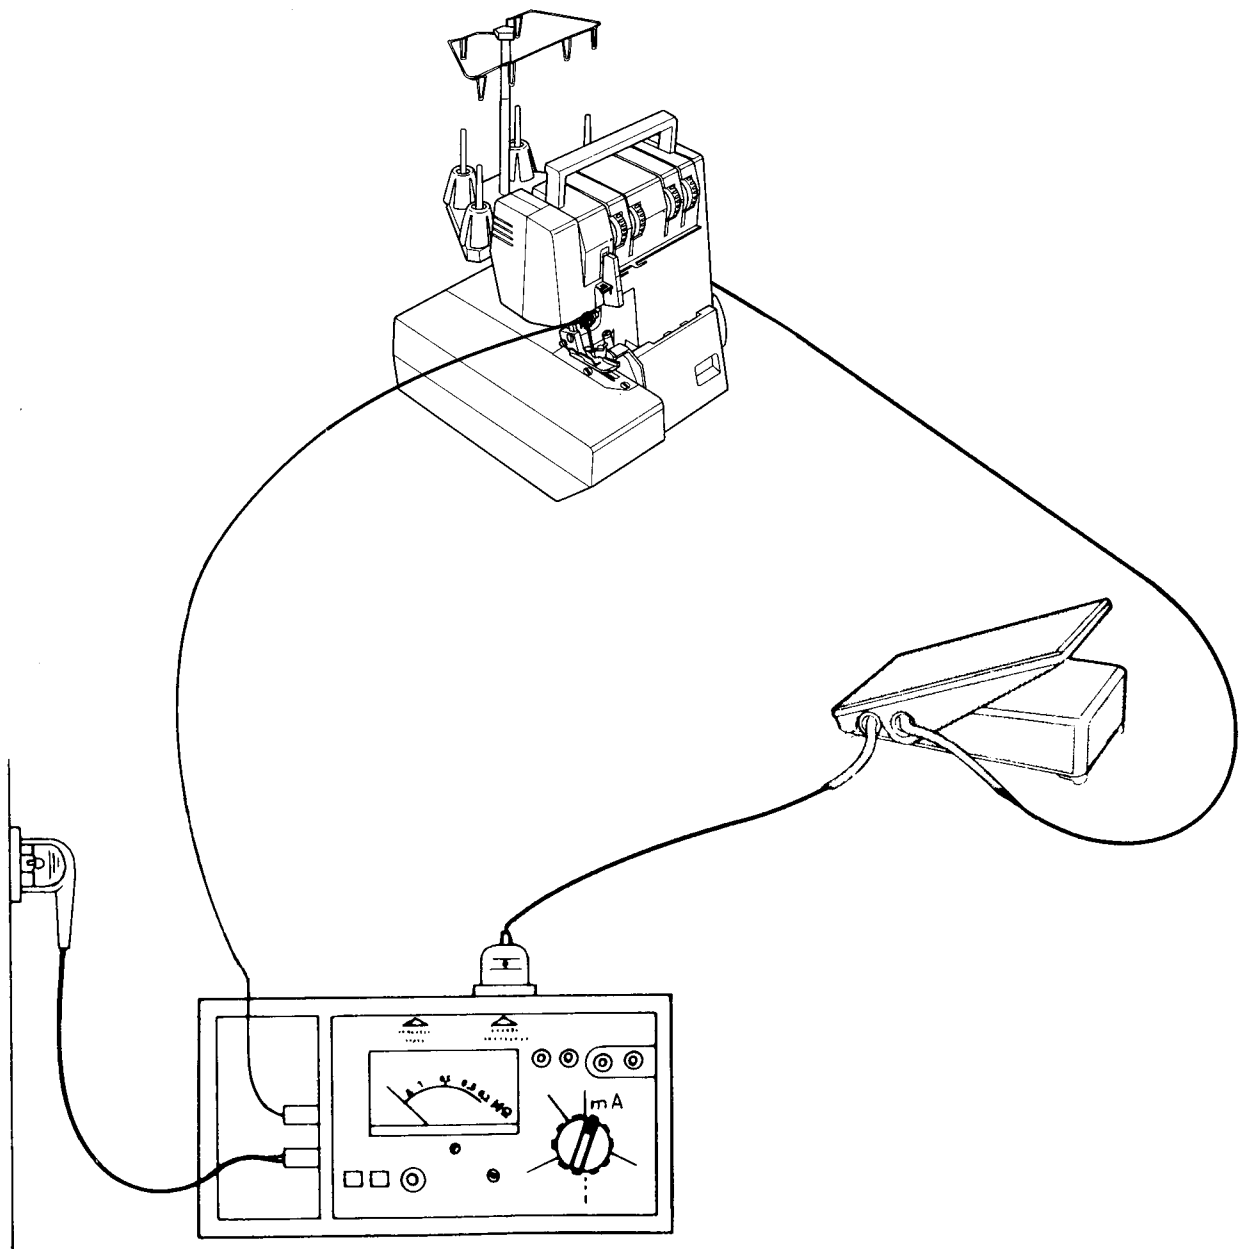

Fig. 66
- * Leave sewing machine plug in right socket (see Fig. 66).